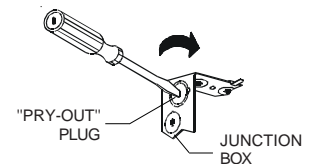

FIG.5
1. Remove the appropriate "Pry-out plug". (Fig.5)